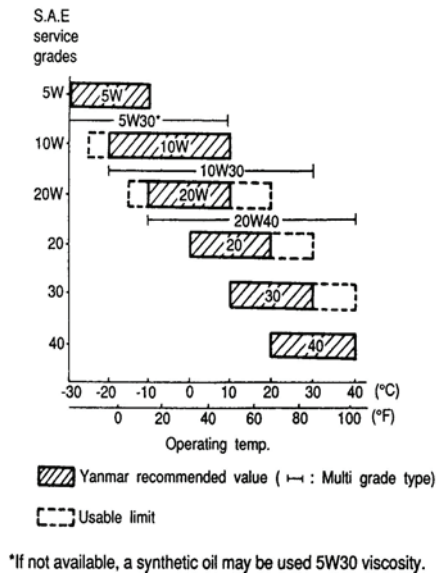

Figure 6. Diesel Engine Oil Chart.
4. Use the oil chart in Figure 6 for varying temperatures the LWP might be exposed to: